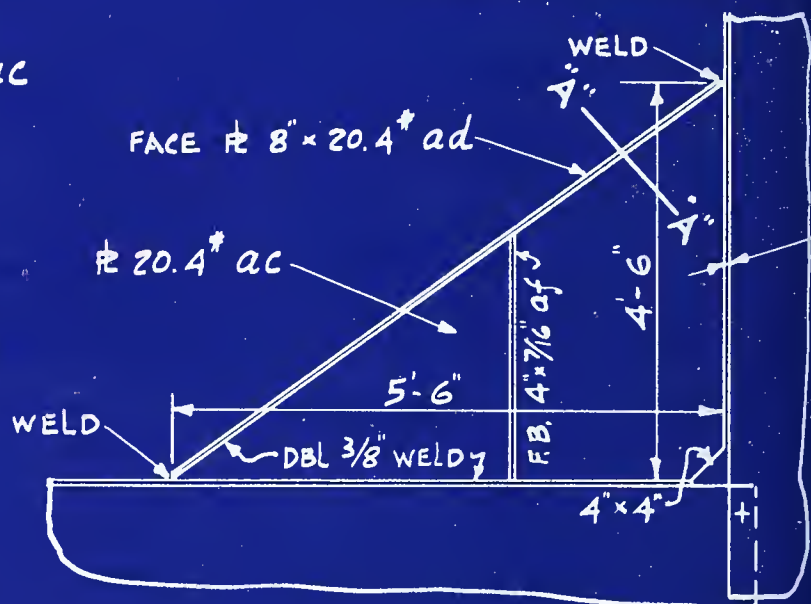

FIG. 25 FACE PLATE BRKT.
2. What size cut-out is shown at the corner of the bracket in Fig. 25? 2. _____
3. What is the width of the face plate shown in Fig. 25? 3. _____
4. What is the size and identification mark on the flat bar, Fig. 25? 4. _____